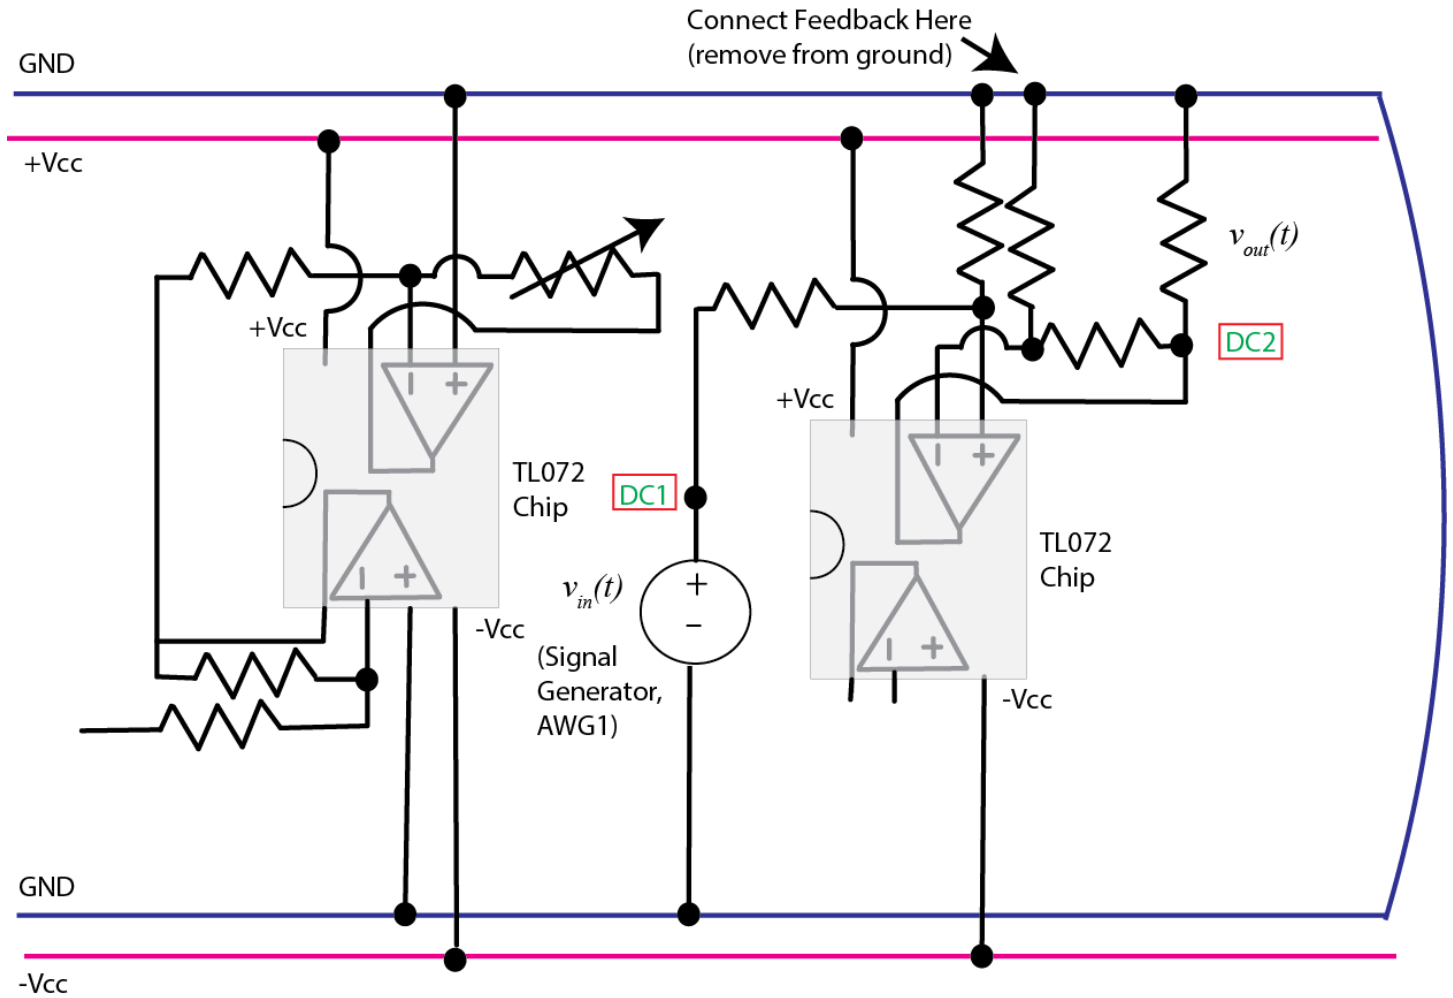

Figure 3. Differential amplifier circuit.
4) Build the differential amplifier, shown in Figure 3. Note that at this point we have connected the feedback input to ground. We have also offset it a bit so we will be able to get a feedback wire to it (it would seem easier to go directly to ground from the negative terminal, but that will cause problems later.) Again, we have included a load resistor to measure the output for debugging purposes. You should use a single chip for this (and waste an op amp) so your circuit will be easier to debug. Do not connect this to the prefilter circuit yet, but you should put this close to your prefilter so you will have room on your board for the rest of the circuit. Connect the signal generator to the input of this circuit and measure the output. They should be equal, if they are not you need to check your wiring.